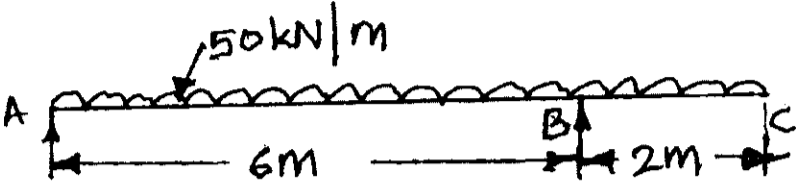

Fig. Q6(b)
- b. Draw SFD and BMD. Locate the point of contra-flexure (Fig. Q6(b)). (14 Marks)